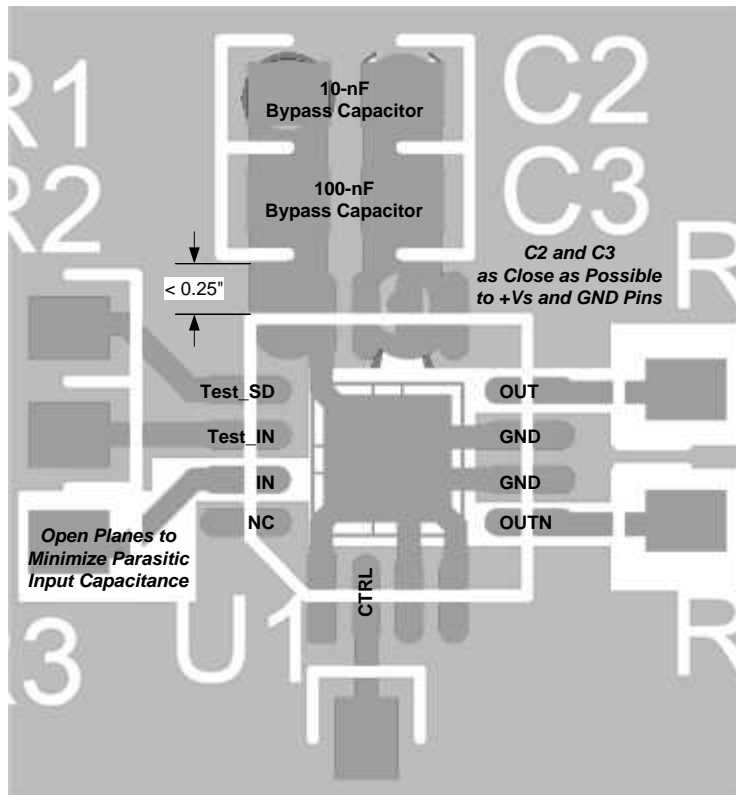

Figure 48. Layout Example
- b. **Minimize the distance** ($< 0.25"$) from the power-supply pins to high-frequency 0.1- μF decoupling capacitors, as shown in Figure 48. At the device pins, make sure that the ground and power-plane layout are not in close proximity to the signal I/O pins. Avoid narrow power and ground traces to minimize inductance between the pins and decoupling capacitors. Always decouple the power-supply connections with these capacitors. An optional supply decoupling capacitor (0.1 μF) across the two power supplies (for bipolar operation) improves second-harmonic distortion performance. Use larger (2.2 μF to 6.8 μF) decoupling capacitors, effective at lower frequencies, on the main supply pins. These capacitors can be placed somewhat farther from the device and can be shared among several devices in the same area of the PC board.